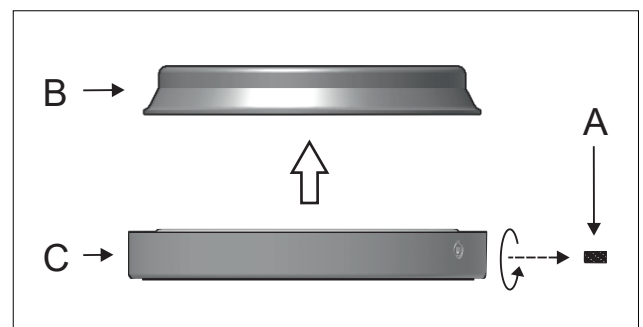

Figure 1
1 - Unscrew the side stud (A) to remove the mounting bracket (B) from the canopy (C). Figure 1.